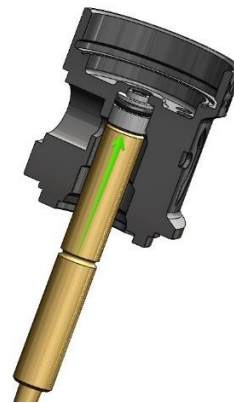

Fig.25
- Guide the HP tool, with Seat, into the HP chamber of the body 01.000164.8. Take care to properly align the seat 6493 with the recess in the HP chamber. Carefully press the seat 6493 completely into place and withdraw the tool, pulling it straight out (Fig. 25).